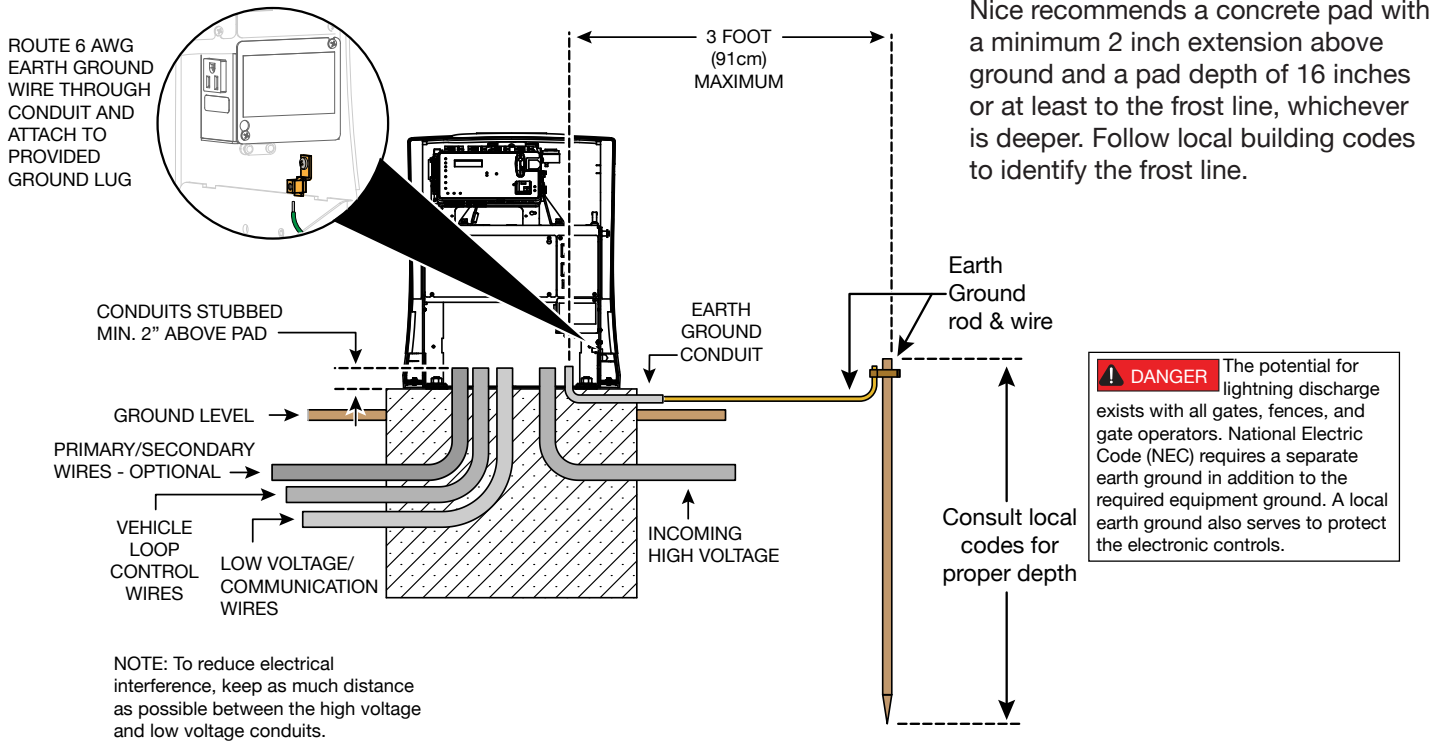

Figure 6. Conduits and Earth Ground
5. Refer to Figure 4 for minimum dimensions for a new concrete pad. Refer to Figure 6 for conduit and earth ground requirements.